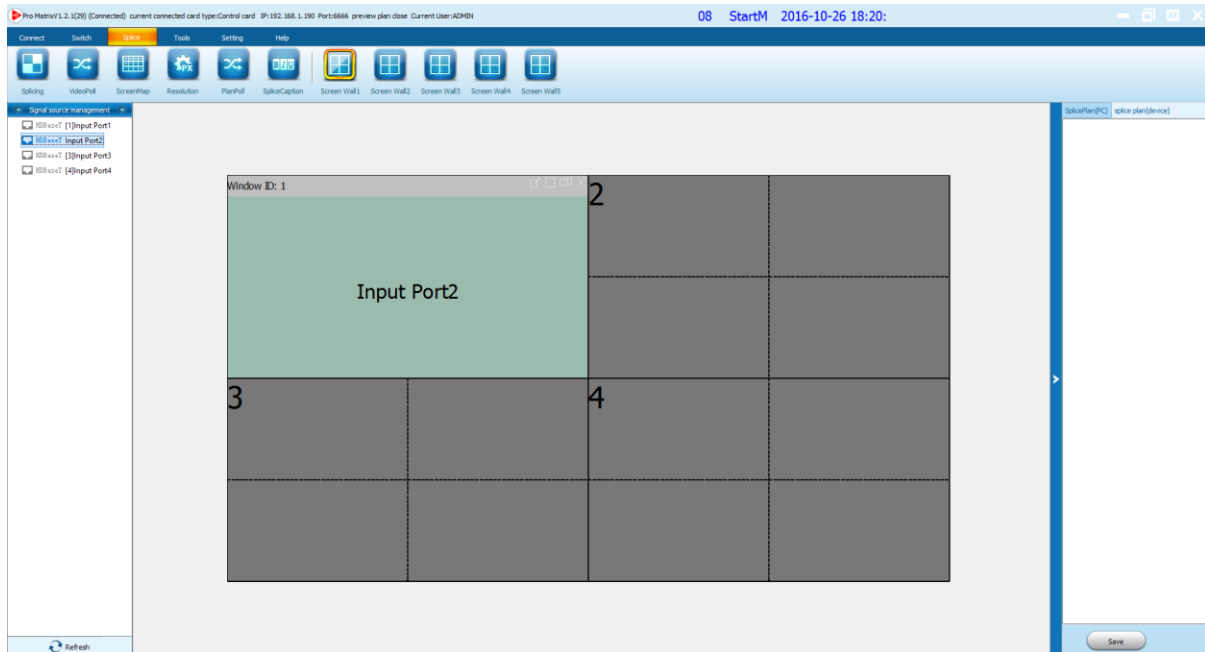

Figure 33: Input2 sent to screen 1
- To send an input to an individual screen simply left click and hold on an input from the input list and drag to the screen you wish the image to be displayed, when you release the mouse the image will be placed full screen on the screen where your mouse was positioned. The example above in figure 33 shows input 2 has been dropped on screen 1